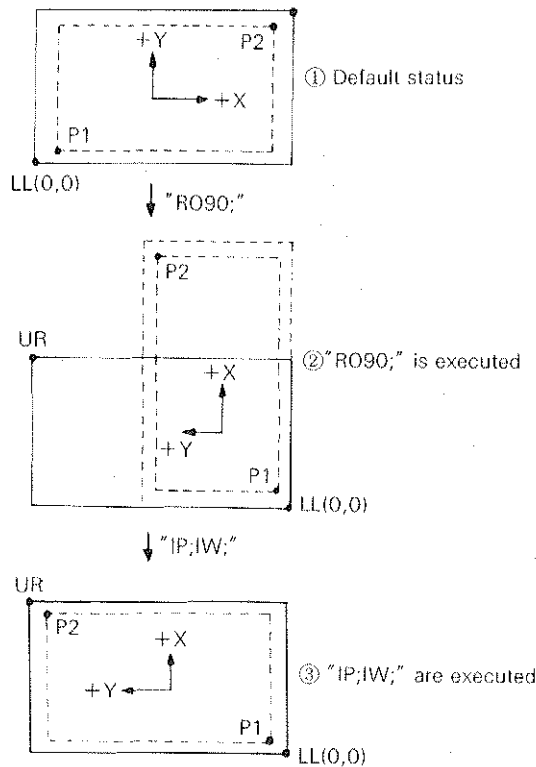
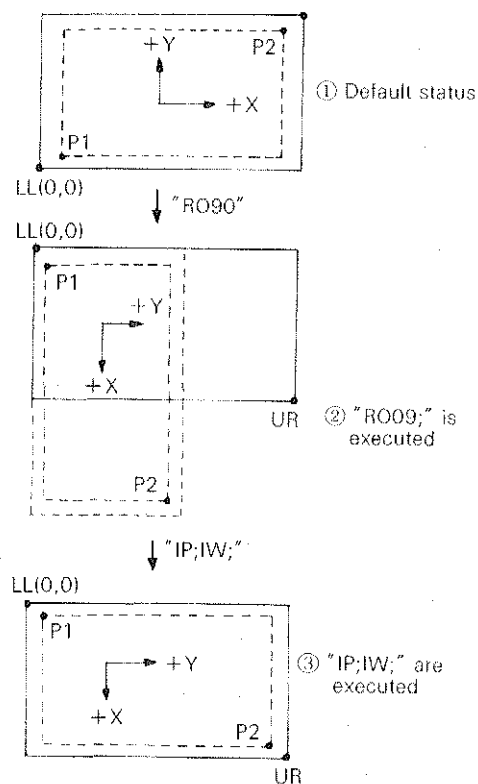

Fig. RO-1 A3/B size
Fig. RO-2 A4/A size
The RO command without parameters is equal to a parameter of 0. 0 and 90 are the only values that are accepted as parameters. When B/A3 paper size is selected (DIP Switch 1-⑦: OFF), the X and Y axes rotates 90 degrees in a counterclockwise direction, as shown in Fig. RO-1. When A/A4 paper size is selected (DIP Switch 1-⑦: ON), the X and Y axes rotate 90 degrees in a clockwise direction, as shown in Fig. RO-2.
Scaling points P1 and P2 change as the RO command and the IP, IW commands are executed. In Fig. RO-1, RO-2 at ③, if the RO, IP and IW commands without parameters are executed, the plotter enters the default status again.
Pressing the **ENTER** key on the control panel while pressing the **FAST** key changes the plotter from ① to ③ in Fig. RO-1, RO-2.